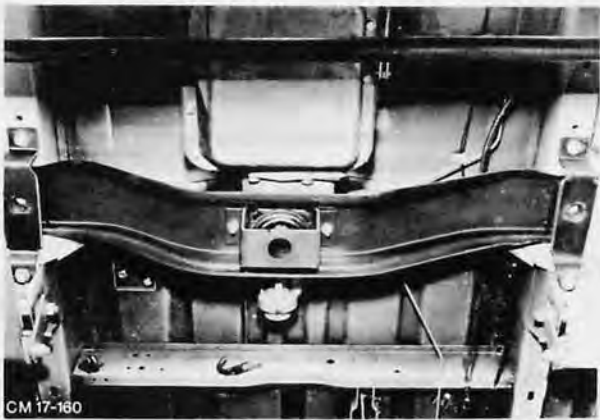

Fig. 142. Transmission support bracket
2. Detach transmission support bracket from floor assembly and transmission extension assembly (5 bolts), Fig. 142. Lower transmission carefully.